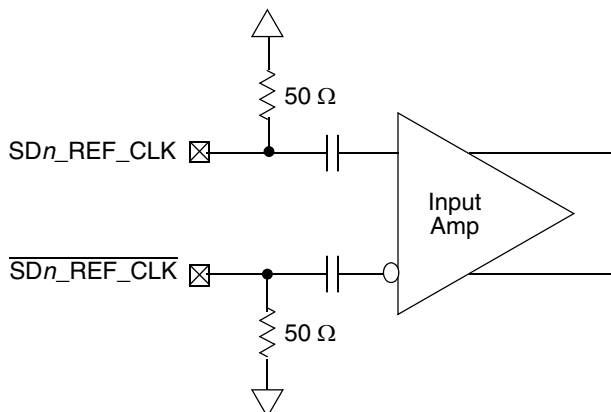

Figure 49. Receiver of SerDes Reference Clocks
Figure 49 shows a receiver reference diagram of the SerDes reference clocks.
- The $\overline{SDn_REF_CLK}$ and $\overline{SDn_REF_CLK}$ are internally AC-coupled differential inputs as shown in Figure 49. Each differential clock input ($\overline{SDn_REF_CLK}$ or $\overline{SDn_REF_CLK}$) has a 50 Ω termination to SGND_SRDSn (xcorevss) followed by on-chip AC-coupling.